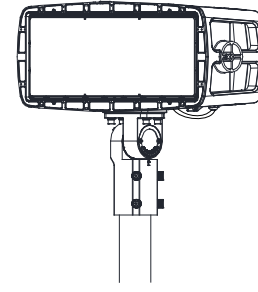

Figure 9
- 2: Place the bracket into the pole and lock the four bolts. (Figure 9)